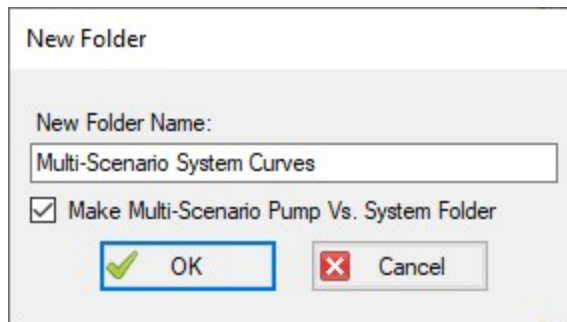

Figure 1: Creating a Multi-Scenario Pump Vs. System Folder
1. In the Graph List Manager select "New Folder". Provide a name for the folder, and check the box to "Make Multi-Scenario Pump Vs. System Folder", as is shown in Figure 1. This folder will be used to save the curves from the individual scenarios that will be included in the multi-scenario graph.